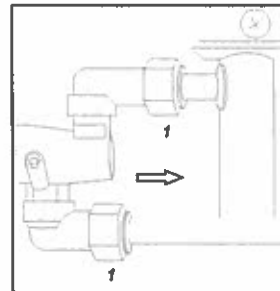

FIG.19 (REPLACEMENT DU ROBINET DE GAZ)
- ENLEVER LE ROBINET DES RACCORDS DE JONCTION AUX CANALISATIONS DU GAZ (FIG.19-RÉF.1);